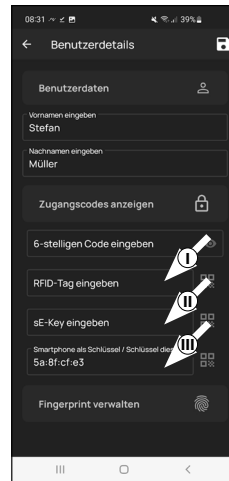

Fig. 4
- 6 A radio key *ENTRY sE-Key 7713* (optionally available) can be stored at this point (II) (Fig. 4). Instructions on how this is setup, please refer to the radio key instructions.
! **Note:** The lock opening by smartphone is automatically stored in the administrator's user profile (III) (Fig. 4). A different smartphone as the electronic key can be stored in this field for additional users. An instructions on this subject can be found in the master operating instructions on our website (see link on the title page).